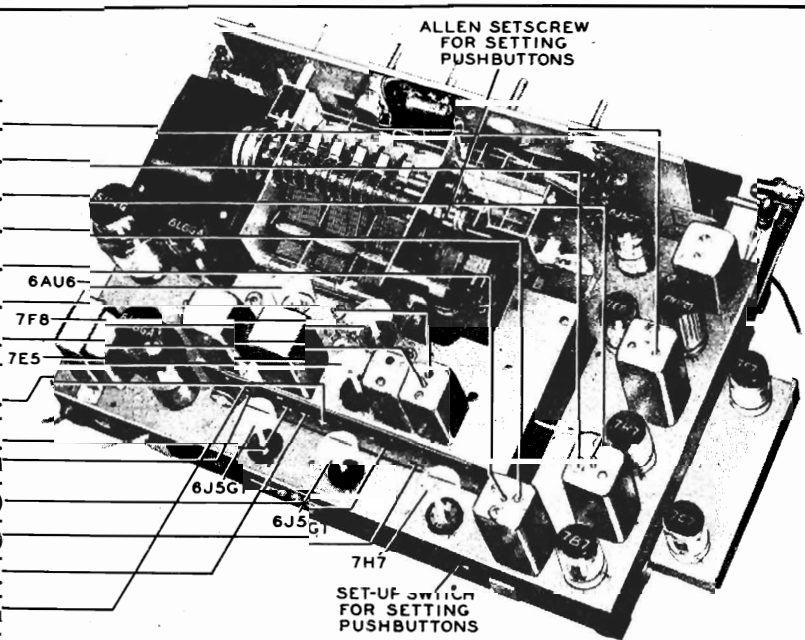

FIGURE 9. TOP VIEW, SHOWING AM TRIMMER LOCATIONS
- Depress the BC push button, and rotate the tuning control until the Allen setscrew in the main camshaft is accessible from the rear of the chassis, as shown in figure 9.
- After the tuning motor stops, operate the set-up switch (see figure 9); hold the set-up switch closed until the motor stalls, then release it.